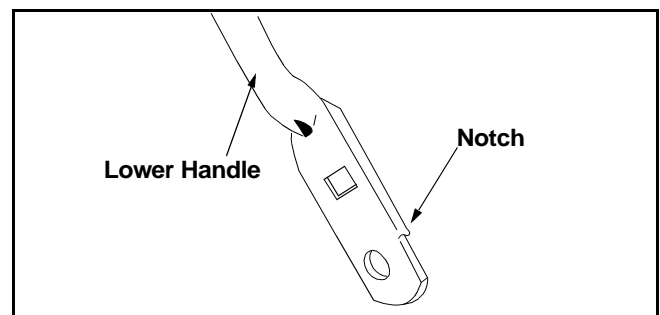

Figure 9
- Turn lower handle around so the notch on the bottom of the lower handle is facing forward. Reassemble, placing the bottom holes in the handle over the weld pins in the handle mounting bracket. See Figure 9.